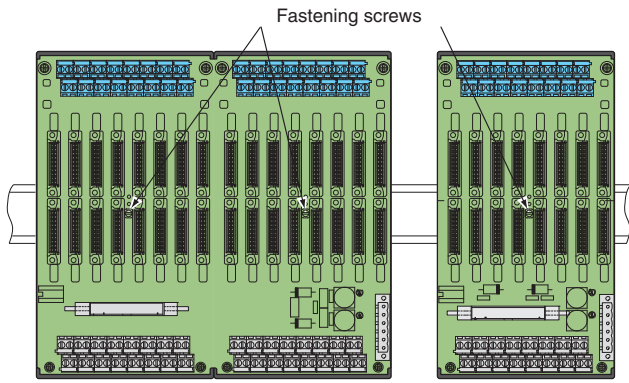

Figure 9 Top view of the H-System Termination Board – horizontal mounting
- Tighten the fastening screws (Figure 9).